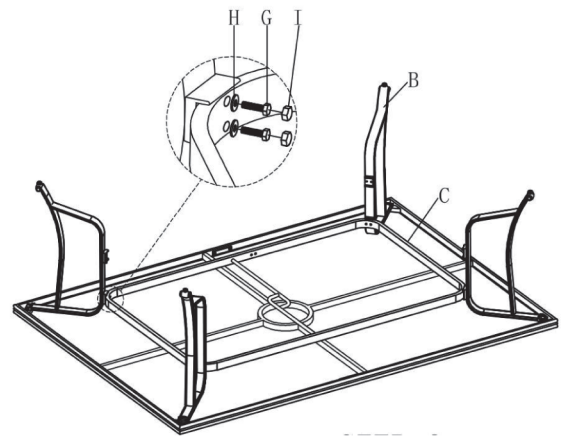

Figure2
Step 2. Attach base shelf (C) and table legs(B) by using bolts (G) and washers (H) as show in Figure 2.